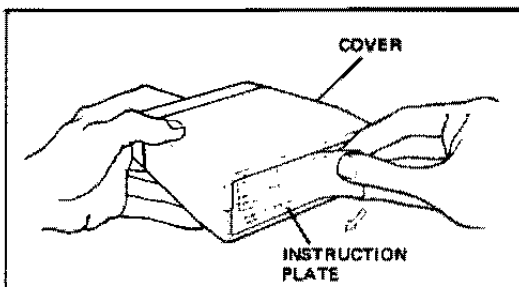

FIG. 4-22 PEELING OFF THE ETCH PLATE
- Remove the instruction plate by prying-up one edge using tweezers and peeling it free (Figure 4-22).